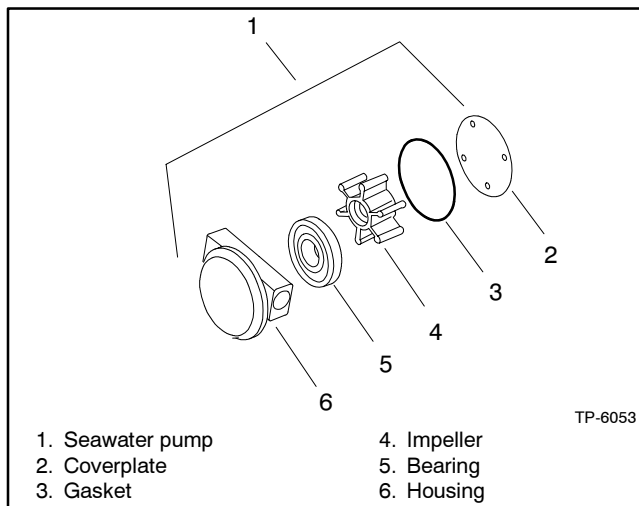

Figure 6-3 Seawater Pump, Typical
2. Remove the seawater pump coverplate. See Figure 6-3.